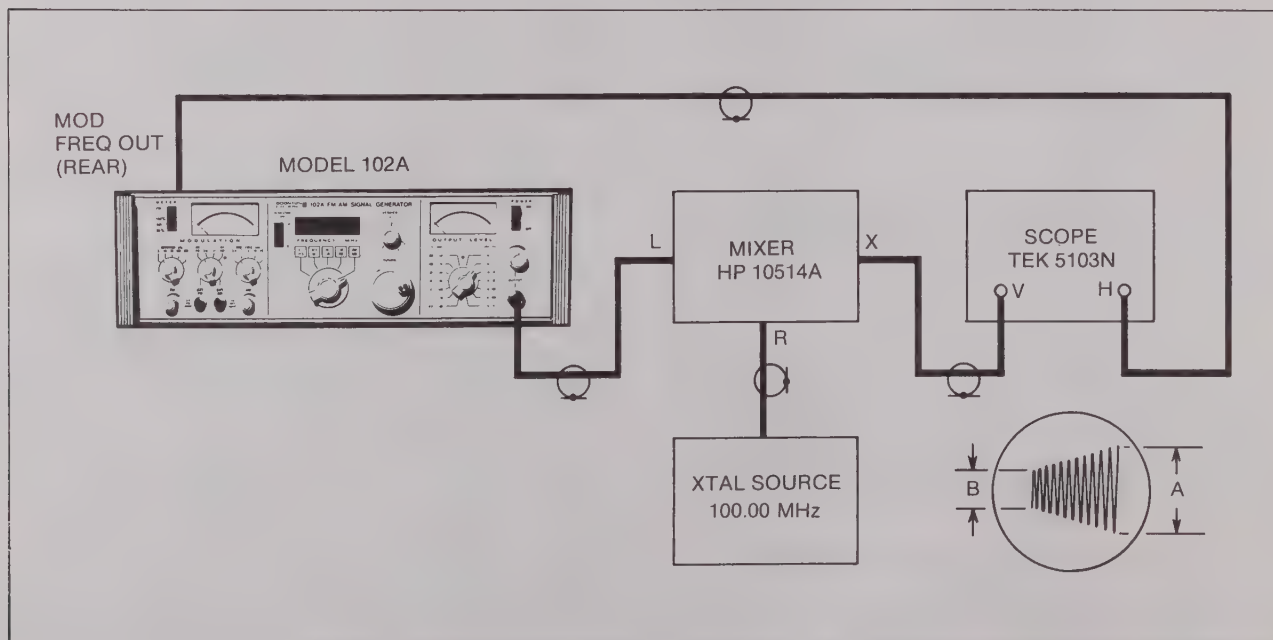

Figure 4-5 AM Calibration, Test Setup
a. Connect the Model 102A and the test equipment as shown in Figure 4-5.
c. Adjust the AM control as required to produce a trapezoid with an A dimension (Figure 4-5) of 8 divisions on the oscilloscope display and a B dimension of 2.65 divisions.